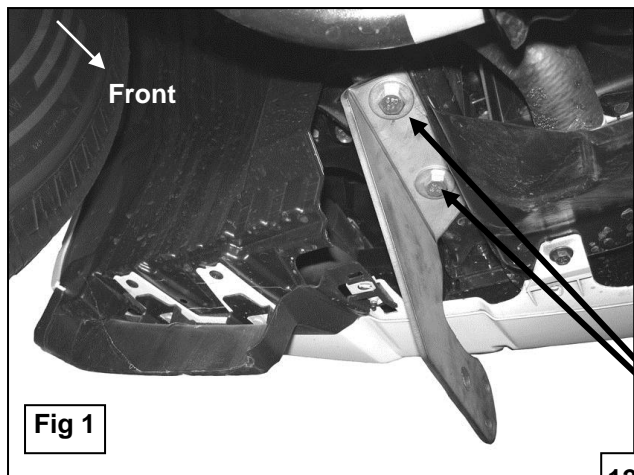

Fig 1
- Locate the driver side Mounting Bracket and partially hang it from factory threaded holes on the frame rail using the included (2) 12-1.25 x 40mm Hex Head Bolts (fine thread), (2) 12mm Lock Washers, and (2) 12mm Flat Washers, (**Figure 1**). Repeat this step for passenger side.